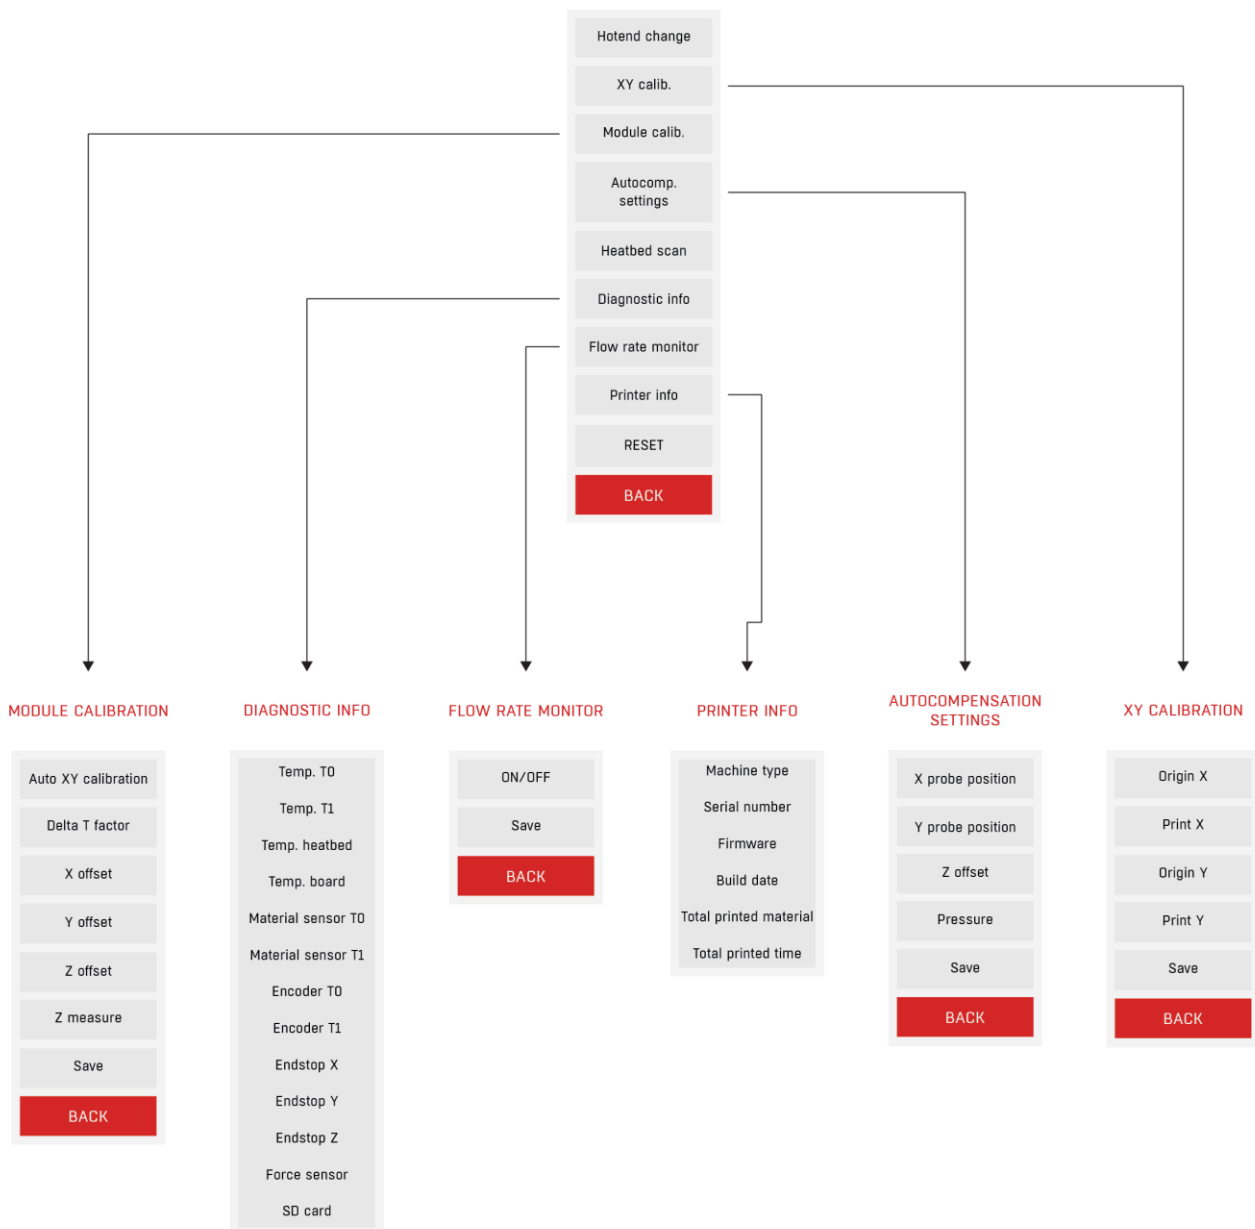

Fig. 34 Advanced menu structure
- advanced options menu (fig. 34),